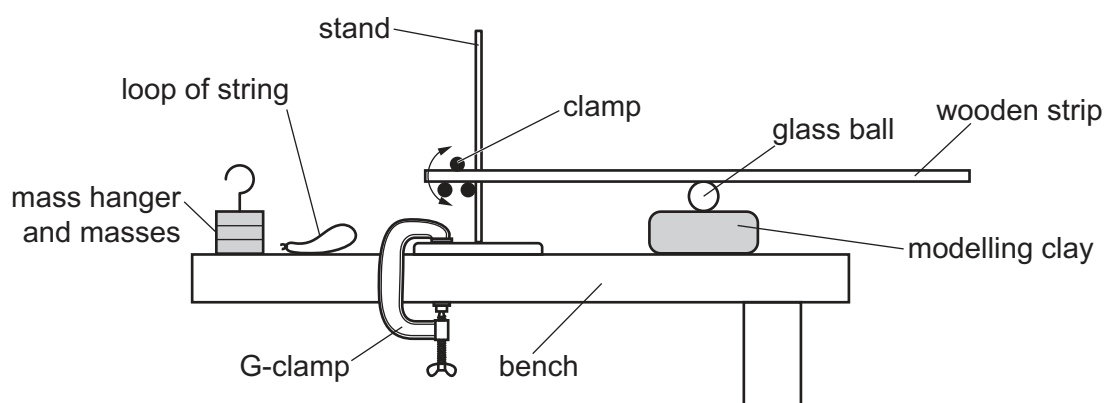

Fig. 3.2
- Place the glass ball and the modelling clay between the centre of the wooden strip and the bench as shown in Fig. 3.2.